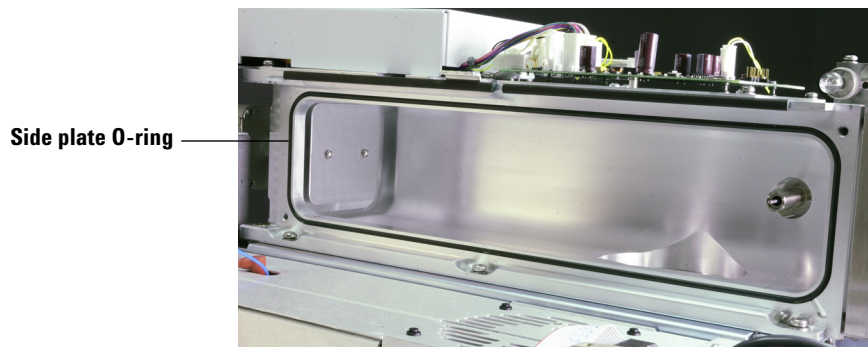

Figure 15 Side plate O-ring
- 3 Use a clean, lint-free cloth or glove to spread a *thin* coat of high vacuum grease only on the exposed surface of the O-ring (Figure 15).